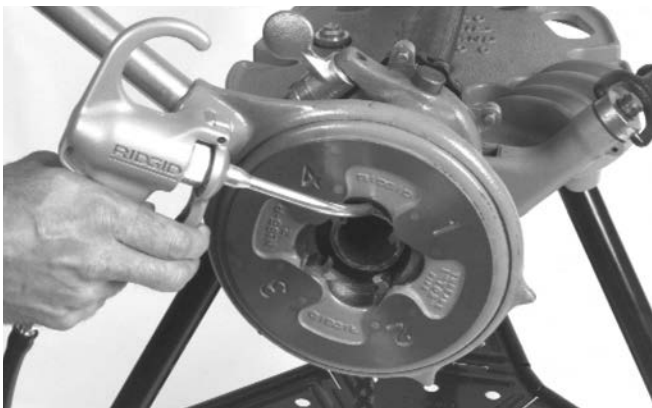

Figure 6 – Applying Thread Cutting Oil
10. Apply a generous quantity of RIDGID Thread Cutting Oil when threading (*Figure 6*). Use of a lubricating oil or a poor thread cutting oil can result in a poor quality cut thread, leaky joints, short die life and high handle forces.